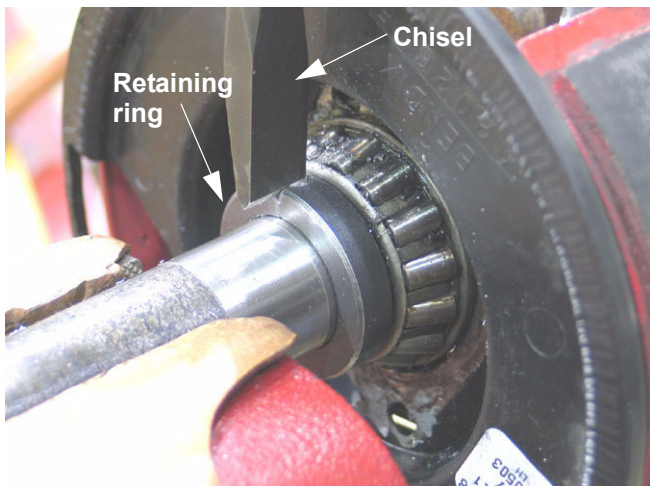

Figure 14.11
14.11. Split the ring with a cold chisel. Once the tension on the ring is relieved, it will slide easily off the axle shaft. See Figure 14.11.